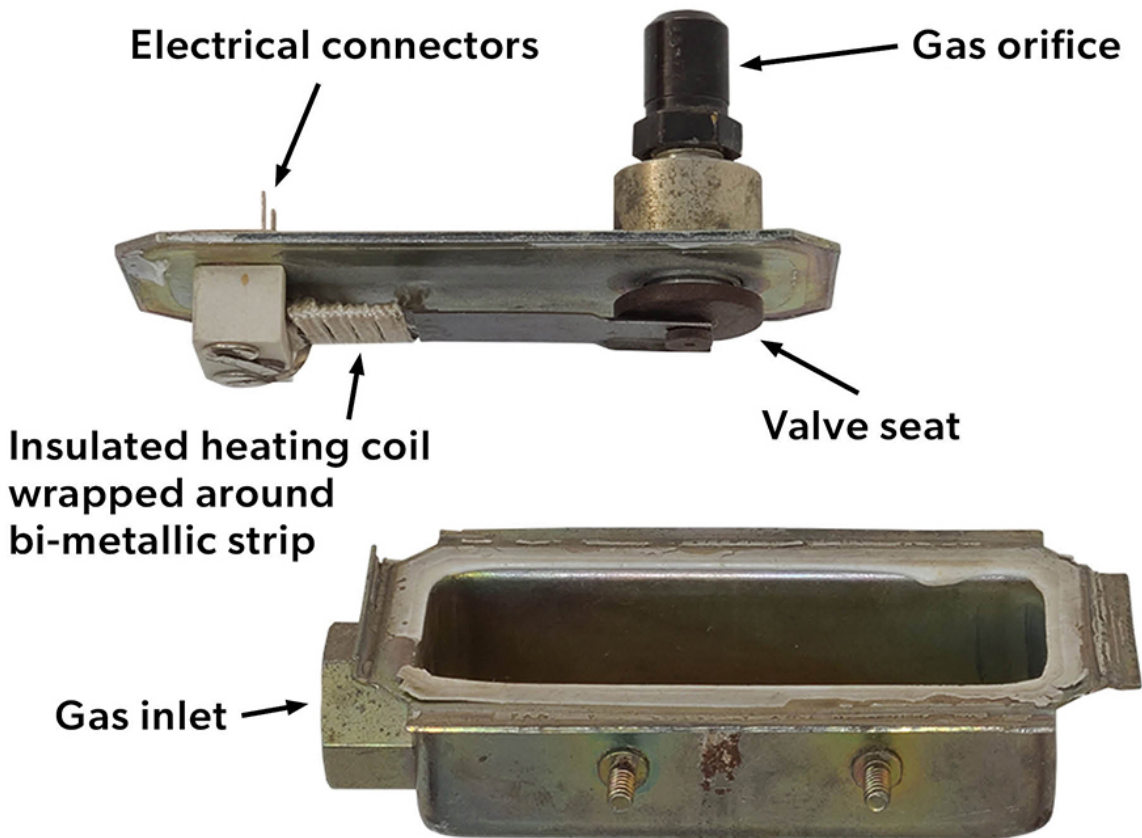

Figure 88. Oven gas valve internal components
Inside the gas valve there is a bi-metal strip that lifts the valve disc from its seat when the bimetal is adequately heated by the insulated heating element wrapped around its base (Figure 88).
- Figure 88. “Oven gas valve internal components” by Rod Lidstone is licensed under a CC BY-NC-SA licence (<https://creativecommons.org/licenses/by-nc-sa/4.0/deed.en>).